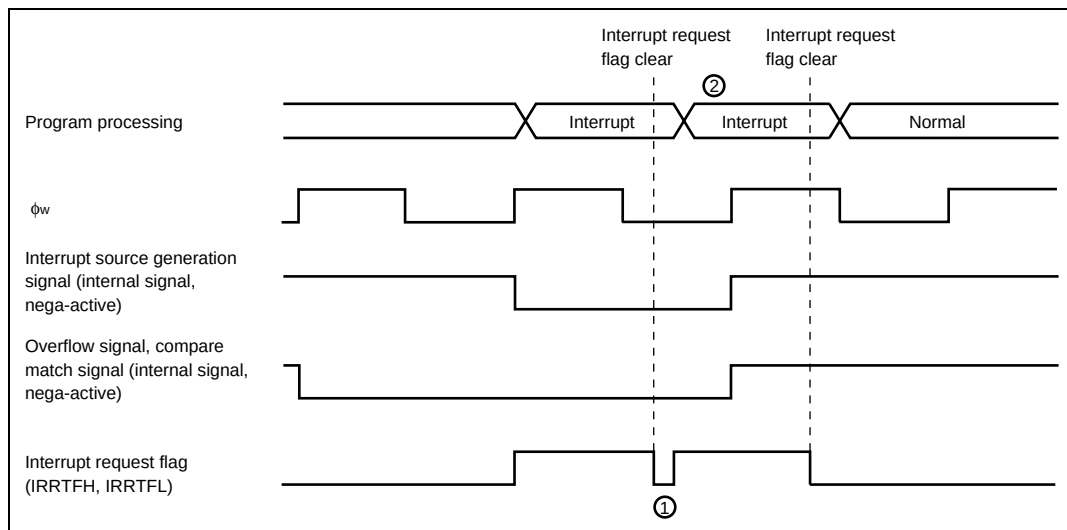

Figure 9.6 Clear Interrupt Request Flag when Interrupt Source Generation Signal is Valid
Clear Timer FH, Timer FL Interrupt Request Flags (IRRTFH, IRRTFL), Timer Overflow Flags H, L (OVFH, OVFL), and Compare Match Flags H, L (CMFH, CMFL): When $\phi_w/4$ is selected as the internal clock, “Interrupt source generation signal” will be operated with ϕ_w and the signal will be outputted with ϕ_w width. And, “Overflow signal” and “Compare match signal” are controlled with 2 cycles of ϕ_w signals. Those signals are outputted with 2 cycles width of ϕ_w (figure 9.6)
In active (high-speed, medium-speed) mode, even if you cleared interrupt request flag during the term of validity of “Interrupt source generation signal”, same interrupt request flag is set. (1 in figure 9.6) And, the timer overflow flag and compare match flag cannot be cleared during the term of validity of “Overflow signal” and “Compare match signal”.
For interrupt request flag is set right after interrupt request is cleared, interrupt process to one time timer FH, timer FL interrupt might be repeated. (2 in figure 9.6) Therefore, to definitely clear interrupt request flag in active (high-speed, medium-speed) mode, clear should be processed after the time that calculated with below (1) formula. And, to definitely clear timer overflow flag and compare match flag, clear should be processed after read timer control status register F (TCSRF) after the time that calculated with below (1) formula.